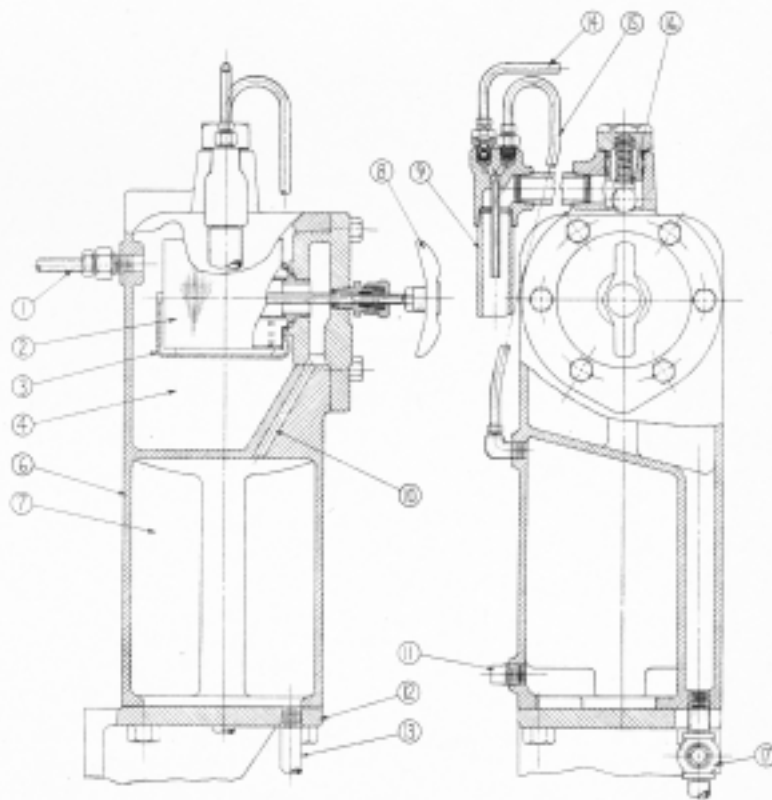

FIG. N-1
The fuel oil day tank and filter are shown in Fig. N-1. A continuous flow of fuel oil from the fuel transfer pump enters the unfiltered fuel compartment (4) through tube (1). Metal edge type fuel filter (2) is mounted in the side of tank (6). It has .003" spacing and is provided with a cleaning knife (3), operated by